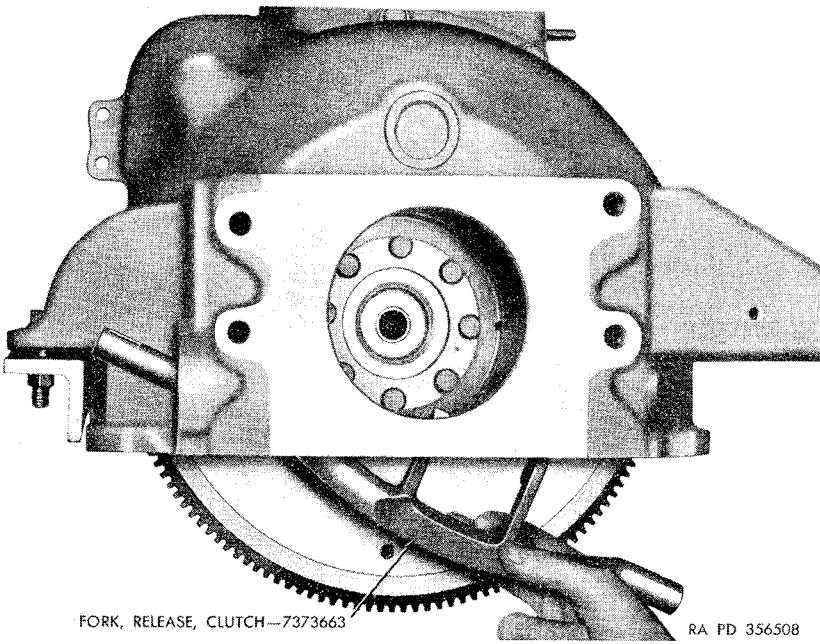

Figure 19. Removing clutch release fork.
- (4) Remove the clutch release fork lever and remove Woodruff key from the clutch release fork (fig. 19).
- (5) Remove the screws securing the release fork flange and pull release fork out of the housing.